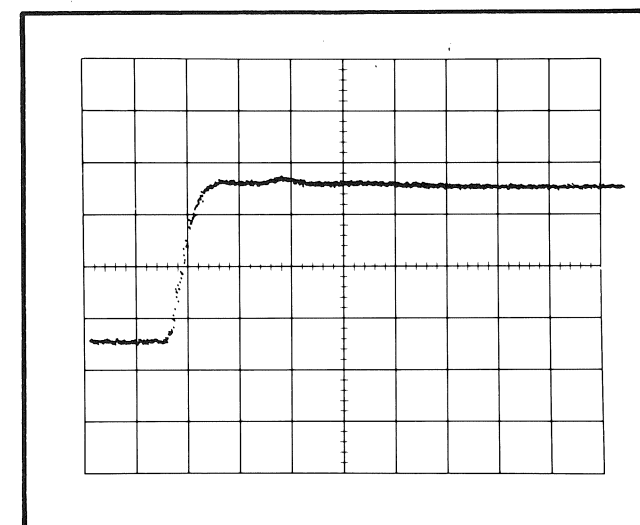

Fig. 2-1. Waveform obtained using the Type 282 with a P6010 probe, Type 106 Square-Wave Generator, and a Type 661 with a Type 5T3 and Type 4S1.
- Adjust the Type 5T3 triggering controls to obtain a stable display similar to that shown in Fig. 2-1.